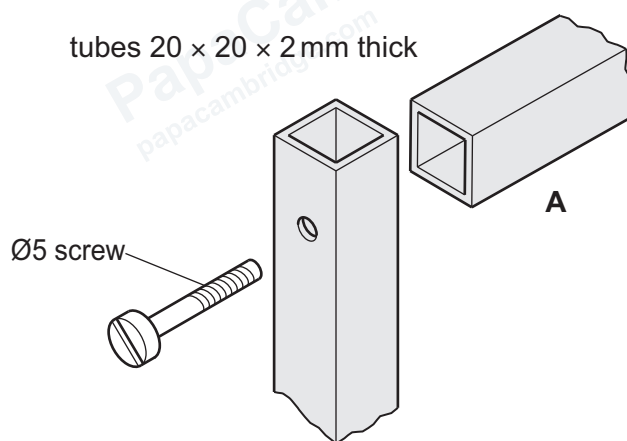

Figure 5.1
- 5 Figure 5.1 shows parts of two mild steel tubes that will be joined together by means of a $\varnothing 5$ screw.